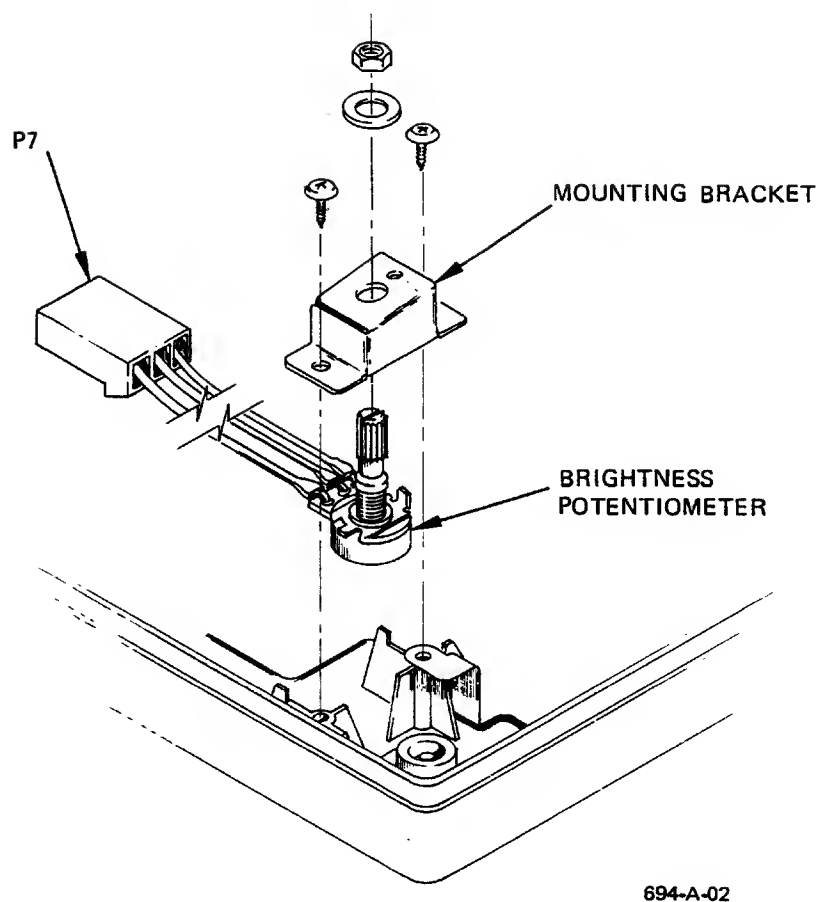

Figure 2-9. Brightness Potentiometer Removal and Replacement
3. Remove the two screws that secure the brightness potentiometer and mounting bracket to the bottom cover. Refer to Figure 2-9.
1. Secure the brightness potentiometer to its mounting bracket with the nut removed in Step 4 above. Refer to Figure 2-9.